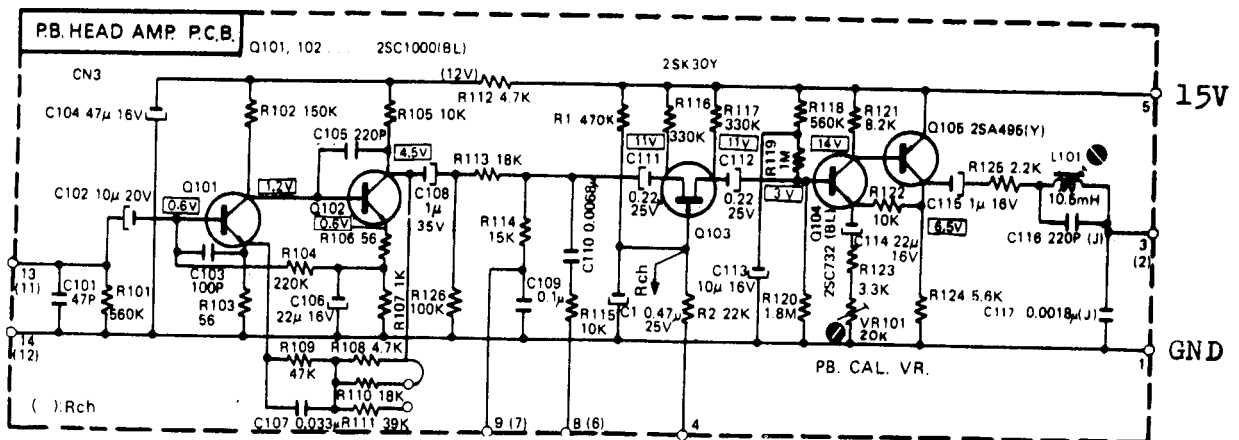
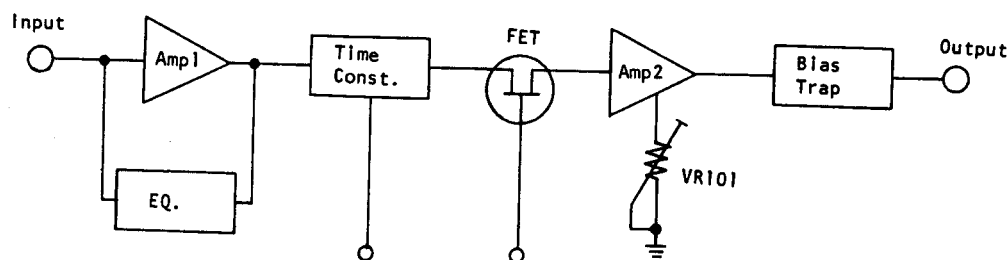

Fig. 2.12 Playback Amp. Circuit Diagram
Fig. 2.13 Playback Amp. System Diagram
Fig. 2.12 shows the playback amplifier circuit, and Fig. 2.13 is its system diagram. The playback head is connected with terminals 13 (11) and 14 (12). Terminal 4 is provided for the mute signal. Terminals 8 (6) and 9 (7) are connected with the TAPE switch which is used to select a time constant according to the characteristics of the magnetic tape used.